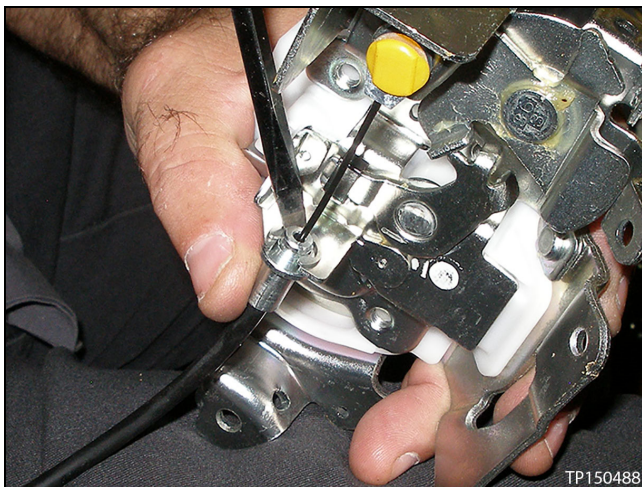

Figure 19
11. Remove the E-clip, and then pull out the cable from the rear lock (see Figure 19).